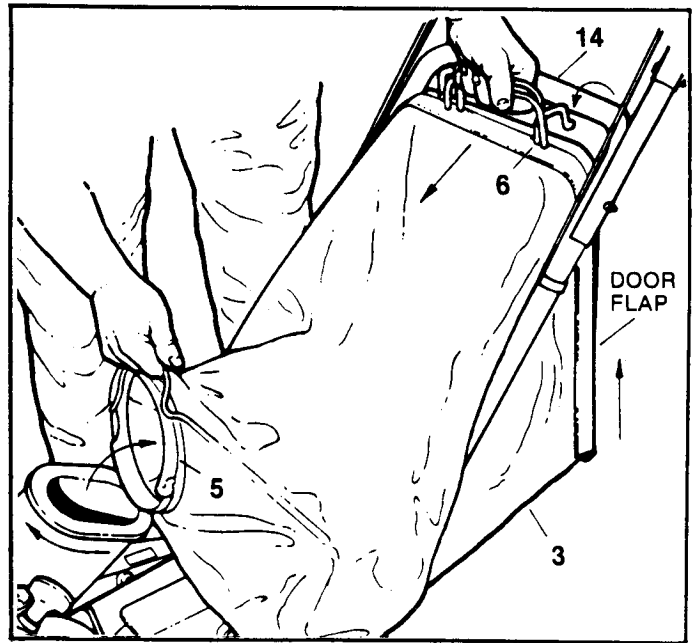

FIG. 7-EMPTYING GRASS BAG
When the grass bag becomes full, stop engine and lift the BAG WIRE SUPPORT hooks (6) up over the LOWER HANDLE (14) and then lift the BAG CONNECTOR (5) off the adaptor flange and continue lifting while moving the bag forward until it clears the mower. To empty the bag, raise the connector end up and release the handle of the door flap. Shake the bag back and forth to dump the clippings. Refer to FIG. 7.